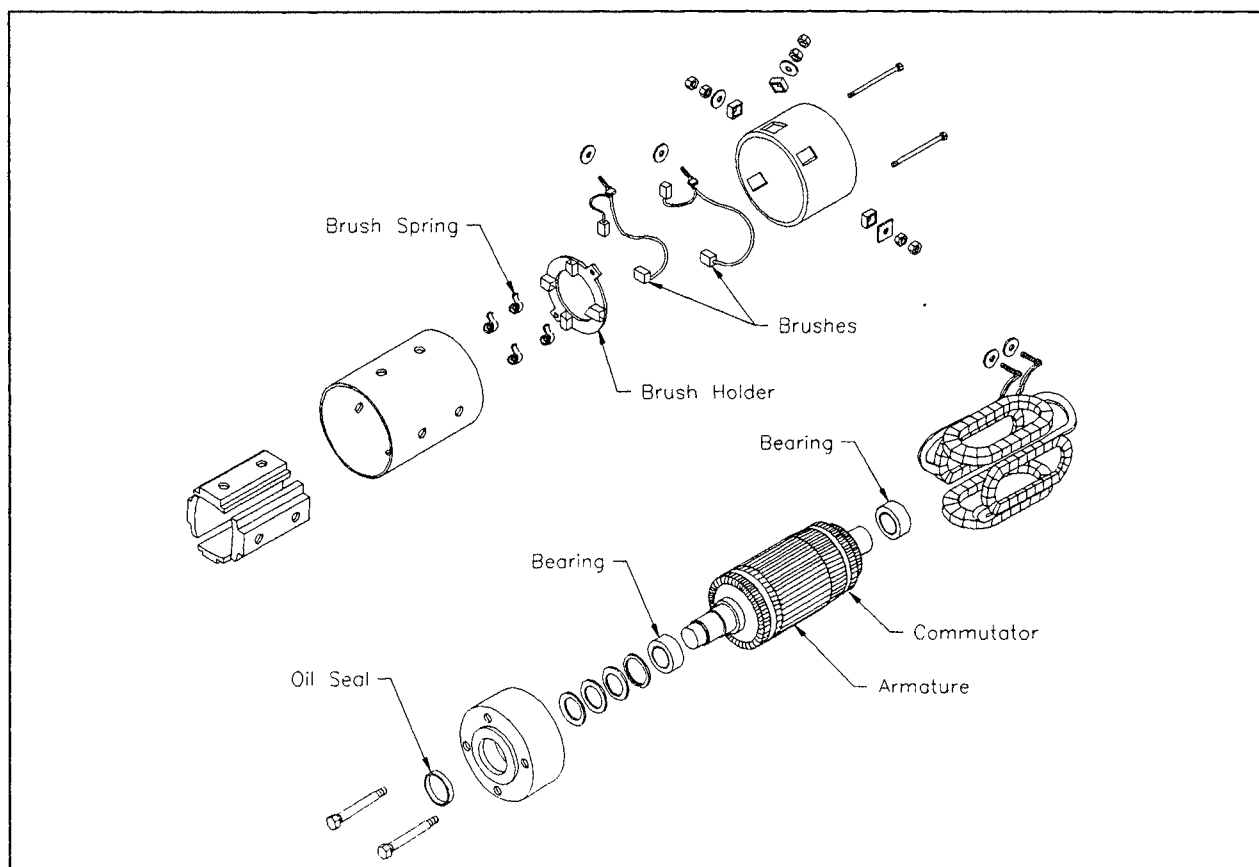

Figure 3-11 (70-049-00)
- Remove the motor end cover revealing the brush holder and brushes. Disassemble the brush studs from the end cover (see Figure 3-11).